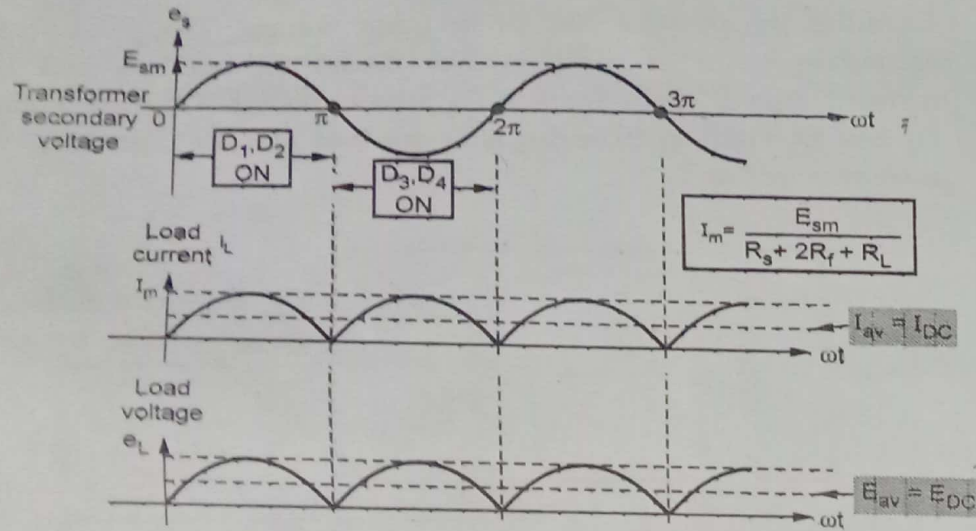

Fig. Q.27.4 Waveforms of bridge rectifier
- The waveforms of load current and voltage are shown in the Fig. Q.27.4.